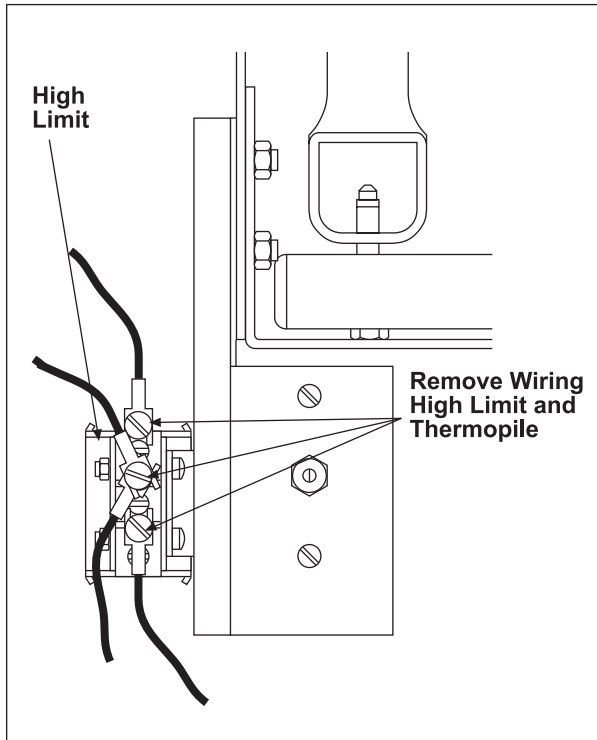

Figure 9
- Remove wire leads from high limit, noting all connections for reassembly (Figure 9).